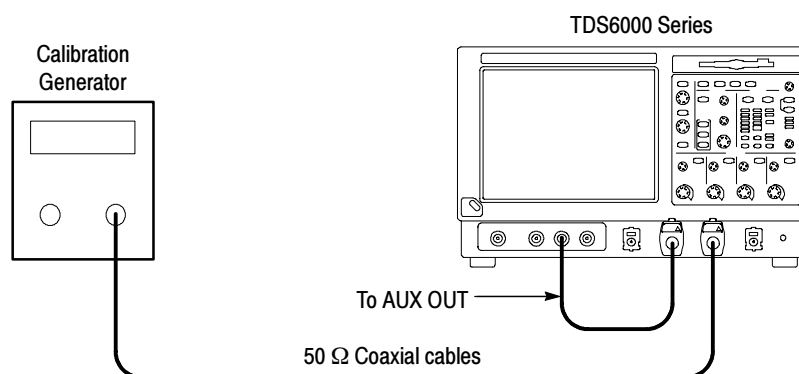

Figure 4-28: Initial test hookup
- Hook up test-signal source 1 (See Figure 4-28):*